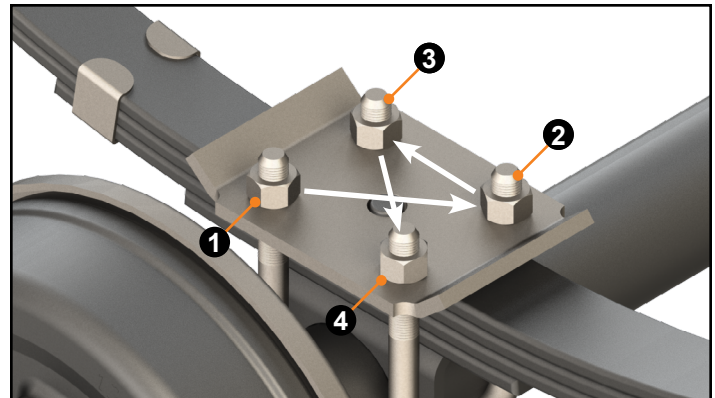

Fig.7
16. Progressively tighten tie (spring) plate nuts in a criss-cross pattern, in the order given (Fig. 7), until the final torque is obtained. Refer to Spring Axle Torque Specifications chart for bolt torque requirements.